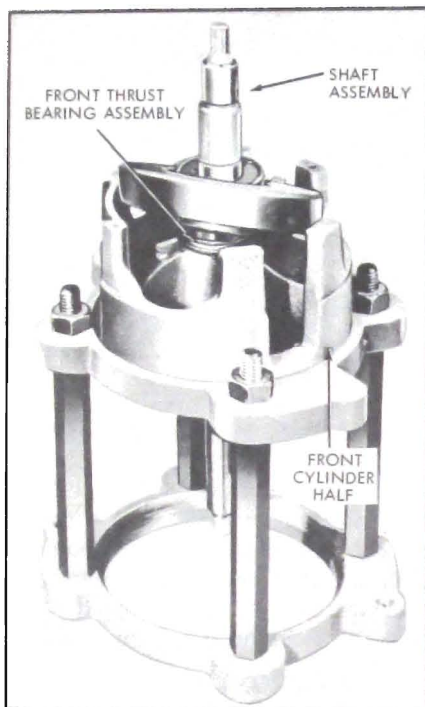

Figure 11-126—Shaft and Bearing Assembly In Front Cylinder Half
3. Place FRONT half of cylinder on J-9397 fixture. Insert threaded end of shaft (with front thrust bearing assembly) through front cylinder half and allow thrust race assembly to rest on hub of cylinder. See Figure 11-126.